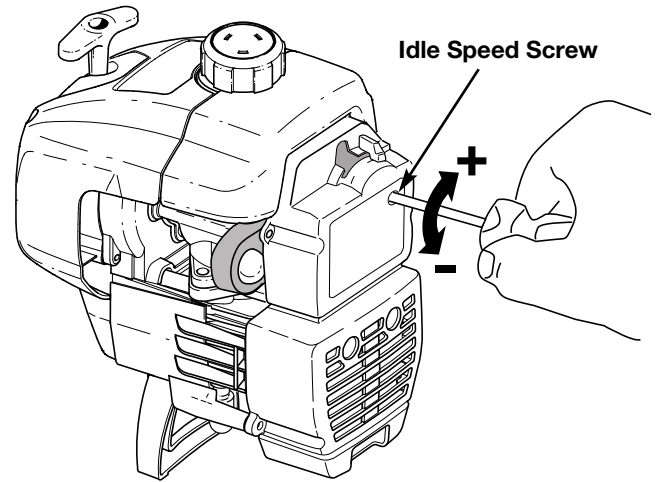

Fig. 38
The idle speed of the engine is adjustable through the Air filter/Muffler cover (Fig. 38).
2. Release the throttle trigger and let the engine idle. If the engine stops, insert a small phillips or flat blade screwdriver into the hole in the air filter/muffler cover (Fig. 38). Turn the idle speed screw in, **clockwise**, 1/8 of a turn at a time (as needed) until the engine idles smoothly.